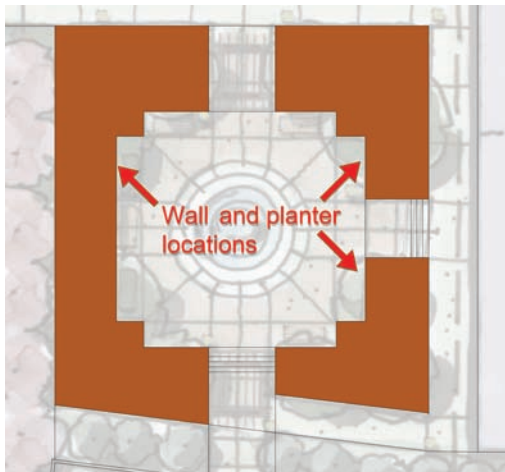
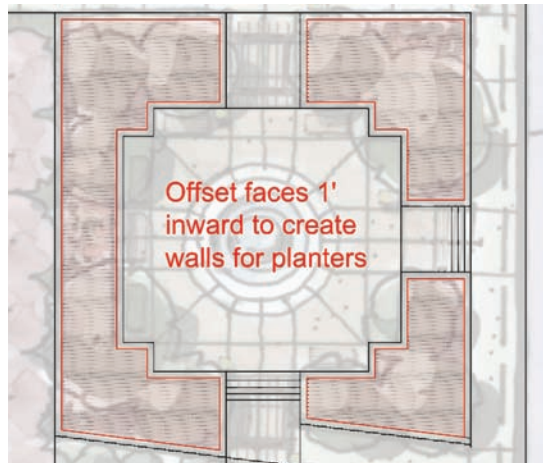

Fig. 7-28: Planter wall locations on the plan image.
Fig. 7-29: Offset the planter area faces to create edges for the wall.
5. Create the walls and planters using the same technique you used to create the curbs. Identify areas with walls, use the Offset tool to provide thickness, and (if needed) close off the ends by adding edges with the Line tool (Fig. 7-28, Fig. 7-29).